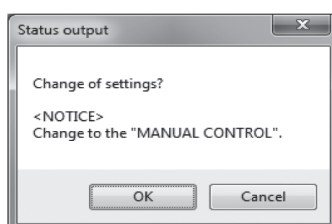

Fig.50
- ⑧ The "Status output override" setting assigns a status output to analog output 2. When "ON", analog output 2 becomes 4/20mA status output. (PA2K and PA5K only)
- ⑨ Click the "OK" button after all settings are completed to display the message box (Fig. 50).